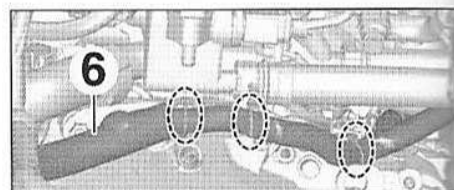

FIG.68
- Ecarter le faisceau (6) (Fig.68). (LEA543-01B-068X.jpg)